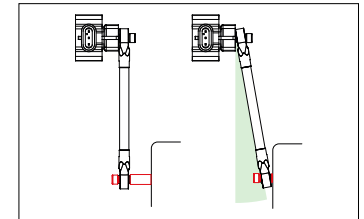

Fig. 31: Angle link rod
6. Mount the link rod to the sensor arm and the mounting point on the suspension. Pay attention to the angle between the link rod and the sensor arm (Fig. 31). This angle must not exceed 15 degrees and can be corrected with spacers at the mounting point.